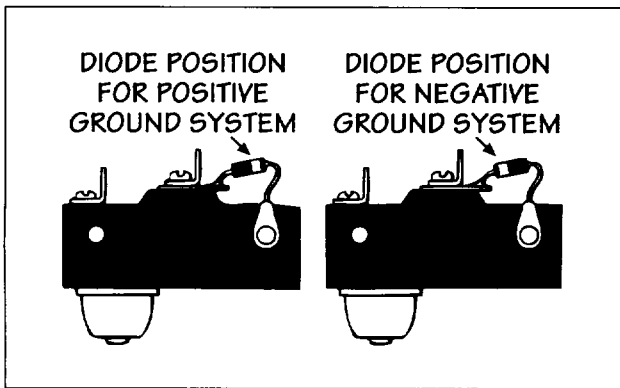

FIG. 2
2. A switch and bracket assembly, mounted on the fuel pump. This switch permits engine brake operation only when the engine is in a "no fuel" condition. A diode installed at the fuel pump switch provides longer service life for all switches. The diode prevents high voltage surges when the system is shut off. Diodes are polarity sensitive and must be installed correctly (see Fig. 2).